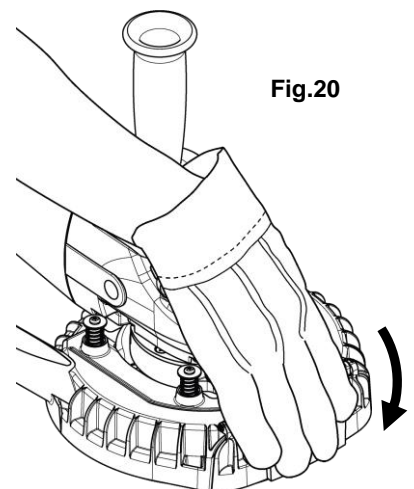

Fig.20
7. Turn off the Angle Grinder and Vacuum, then close the Front Lid. (Fig.20)